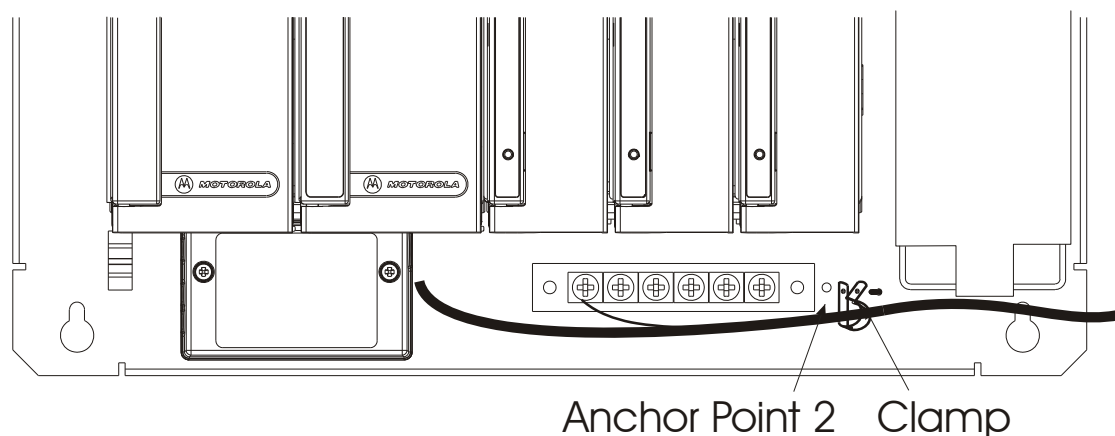

Figure 2-19 RTU on Metal Chassis – Cable Anchor Point 2
Anchor point 2 for all other units without housing (other than No I/O Slots) is near the unit's ground strip. (See Figure 2-19 below.)
- 2) If user-supplied cables are used, connect the ground wire(s) to the PGND pin(s) on the I/O module and to the grounding strip at the bottom of the RTU. (See grounding strip in Figure 2-19 above.)
Connect the ground wire(s) from the cable braid to the PGND pin(s) on the I/O module and to the grounding strip at the bottom of the RTU. (See grounding strip in Figure 2-19 above.)